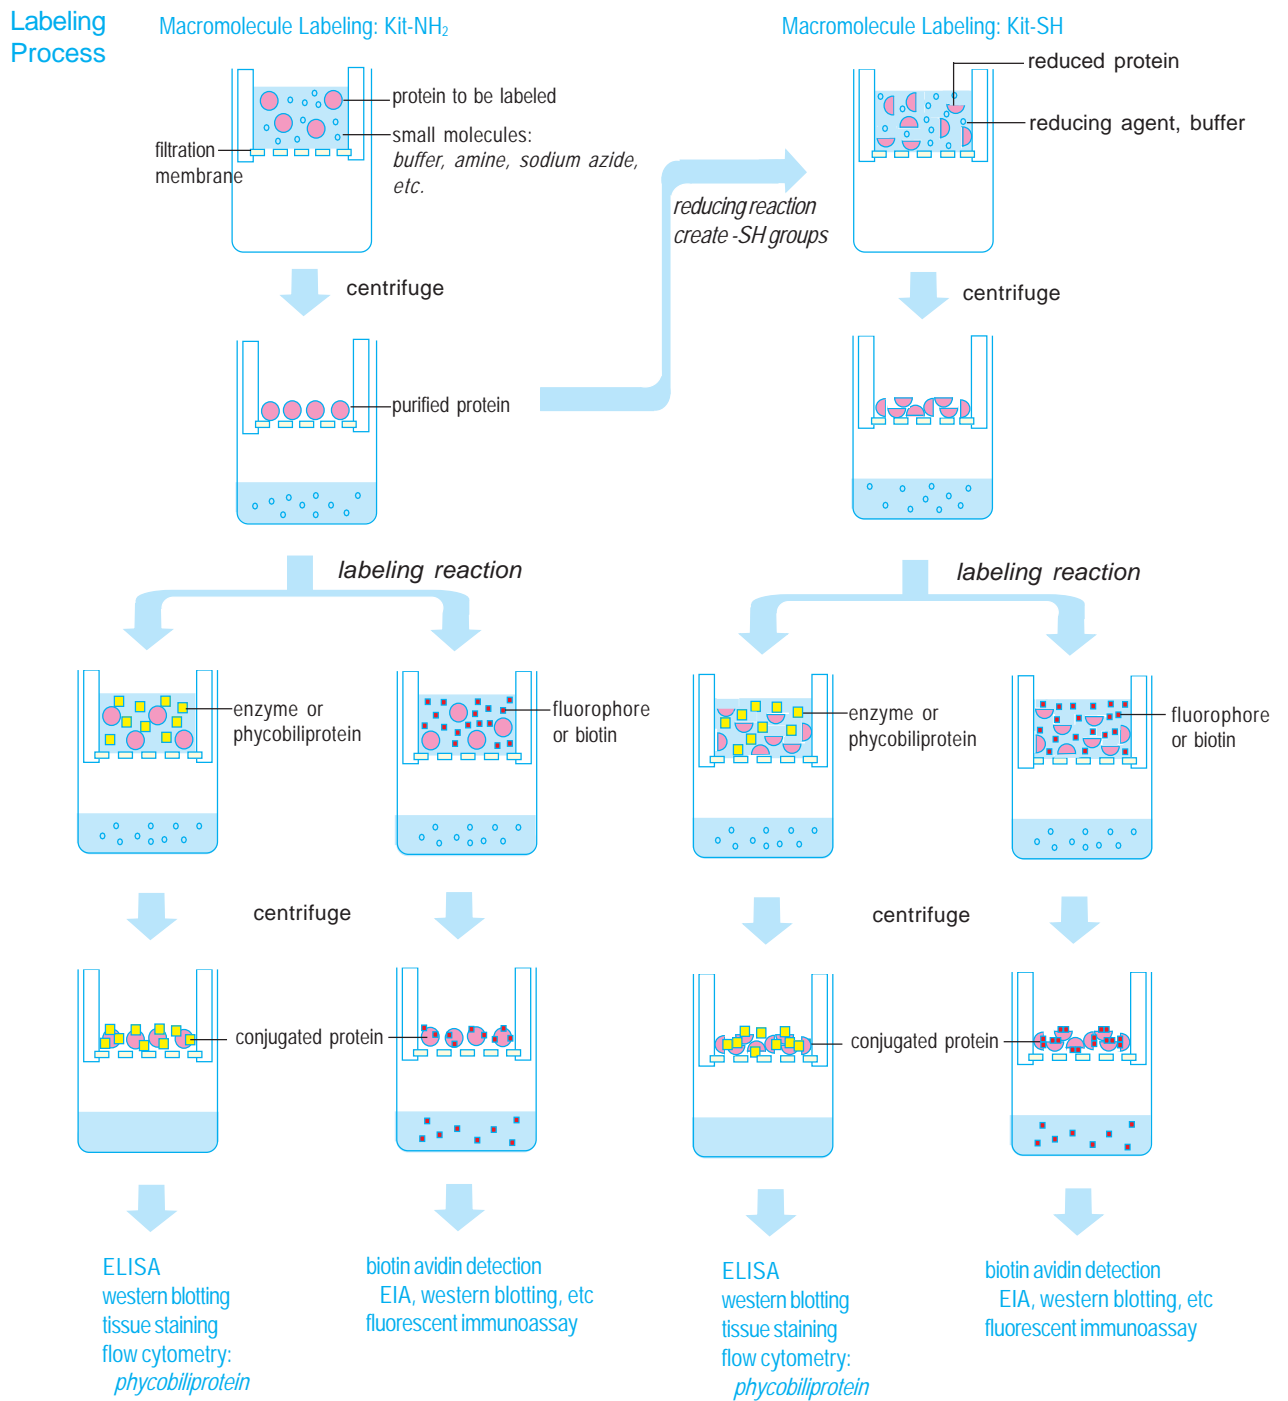

Fig. 1-3 Macromolecule labeling processes
Additionally, the unique buffer system in the kit prevents aggregation of the protein and the conjugate during the labeling process and storage of the conjugate. The conjugate recovered with the buffer (Storage buffer) is stable for several months at 4 °C or several years if it's stored at -20 °C. There is a 10K membrane filter available for protein smaller than 50K. The enzyme labeling kits can be used for small molecule labelings such as organic chemicals, amino acids, peptides, or oligonucleotides. For more detailed information, please review the product information section. Kit-NH₂ and Kit-SH include buffer solutions for washing, labeling reaction and recovery of proteins, activated compounds, 30K filtration tubes, and an easy-to-follow protocol with photos. Kit-SH additionally contains reducing agents for converting a disulfide group to sulfhydryl groups (SH). The overall protocols for Kit-NH₂ and Kit-SH for macromolecule and small molecule labelings are indicated in Fig. 1-3 and 1-4. Most small molecules, such as buffer components, sodium azide (preservative), amine compounds, thiol compounds, detergents, glycerol, etc. are removed from proteins by the first step. Then, the appropriate labeling reagent is added directly to the Filtration tube and incubated at 37 °C for a certain time period. The conjugate is then recovered with Storage buffer or WS buffer. The average concentration of protein will be 500-1,000 µg per ml as antibody. In most cases, the conjugates can be applied for downstream experiments such as ELISA, western blotting, tissue staining, and flowcytometry without further purification.